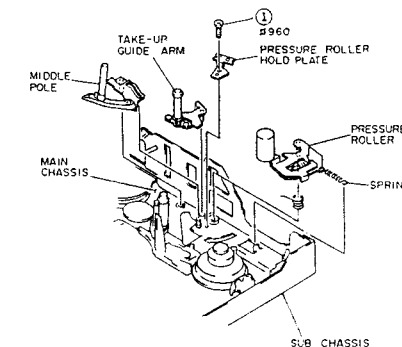

Fig. 2-54
- 1) Remove one (1) screw holding the pressure roller hold plate. (See Fig. 2-54)
- 3) Release the spring between the pressure roller and sub chassis. (See Fig. 2-54)
- 3) Pull out the take-up guide arm from the sub chassis. (See Fig. 2-54)
- 5) Pull out the middle pole from the main chassis. (See Fig. 2-54)